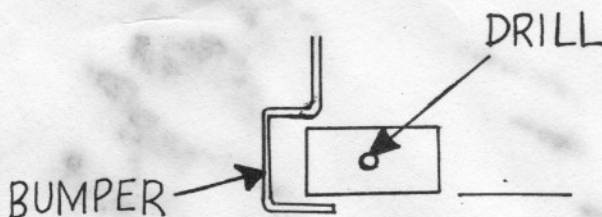

Figure 12
1. Locate and drill one 3/16-inch hole on each side of the frame, using the template provided. See Fig. 12.